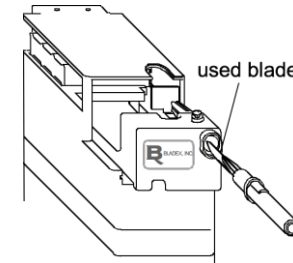

Fig. 3 Step 1: Insert handle with used blade
**Step 1** – To discharge a used blade, insert the handle as shown in Fig.3.